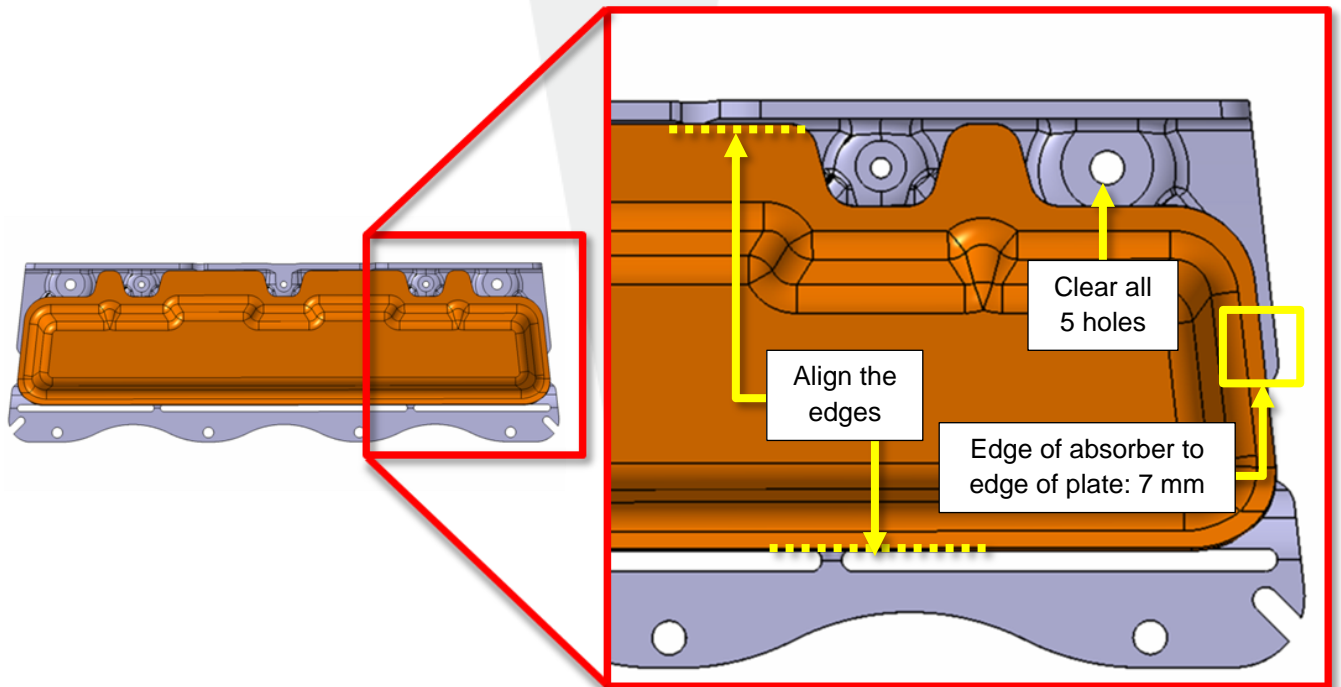

Figure 9 (acoustic absorber highlighted)
19. Remove the backing from the new shield top acoustic absorber and press it onto the skid plate. Use the guidelines in Figure 9 to accurately align the absorber.